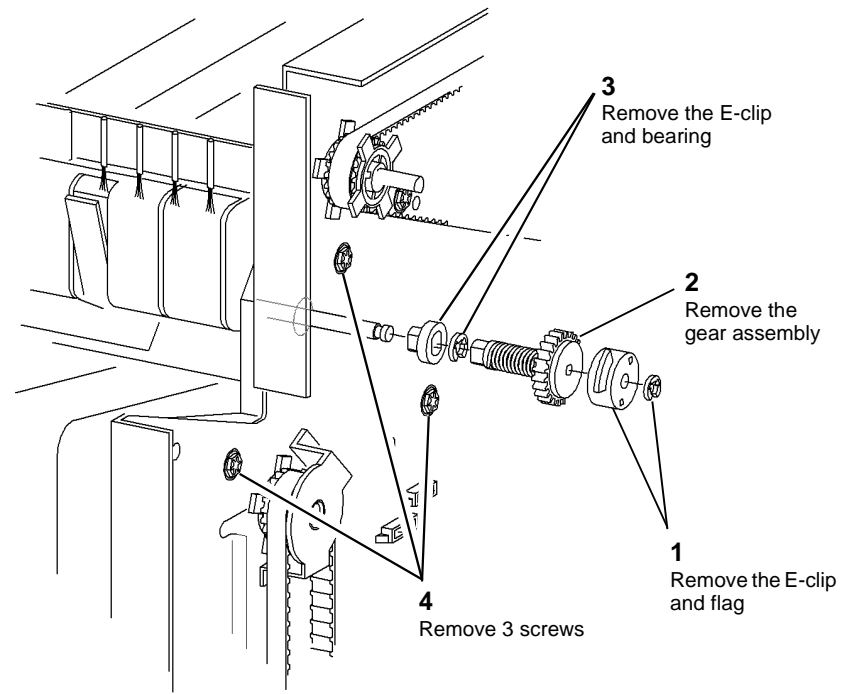

Figure 2 Rear preparation
5. Prepare the rear components, **Figure 2**
5. Install the gear assembly, ensuring that it locates onto the large "D" flat, Figure 2.
6. Install the flag and E-clip, ensuring that the flag locates on the small "D" flat, Figure 2.